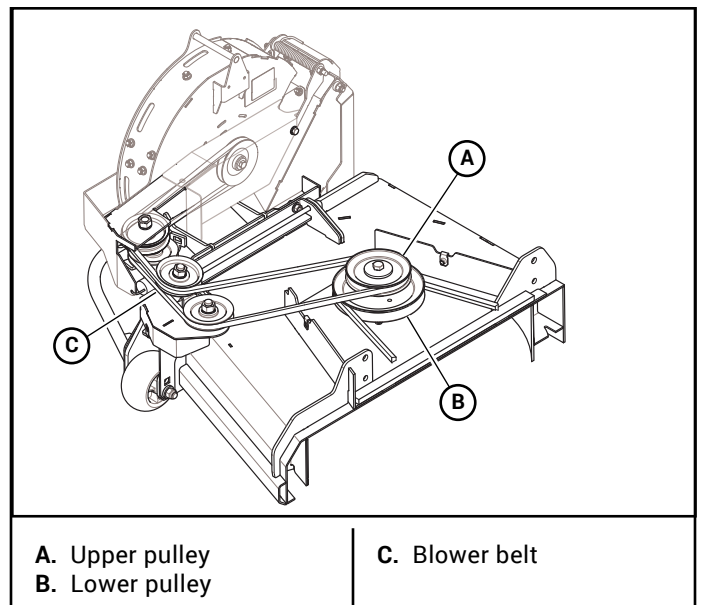

Figure 3-12
12. Install and route the blower belt around the blower pulleys and the upper pulley on the double pulley. This belt is self-tensioning. Figure 3-12